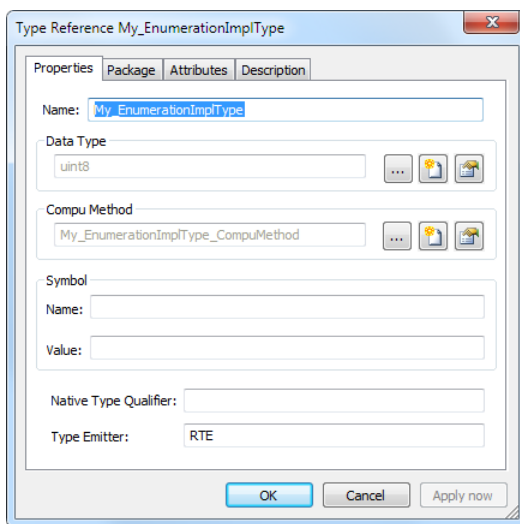

Figure 4-35 My_EnumerationImplType
- ▶ A new Reference implementation data type is created: “My_EnumerationImplType” (see Figure 4-35):